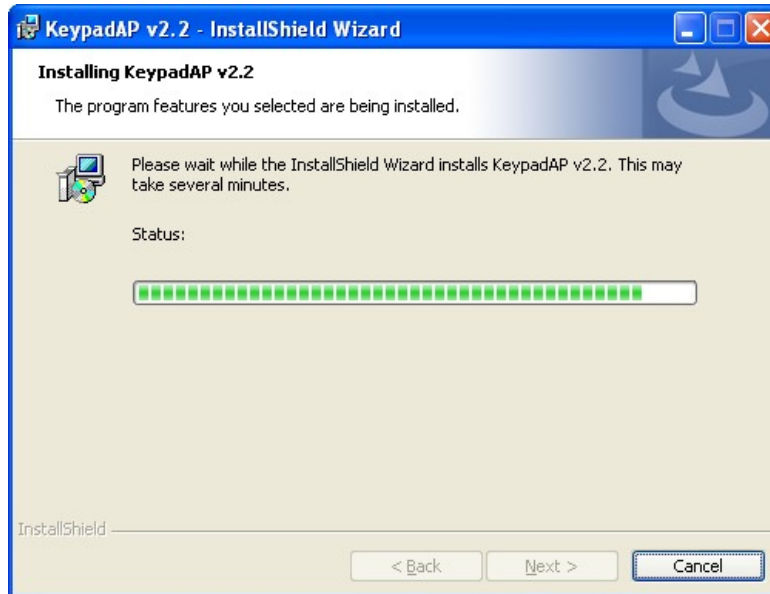

Figure 6-38: Installing KeypadAP v2.2
Step 10: The installation screen appears and displays the progress of the installation (Figure 6-38).